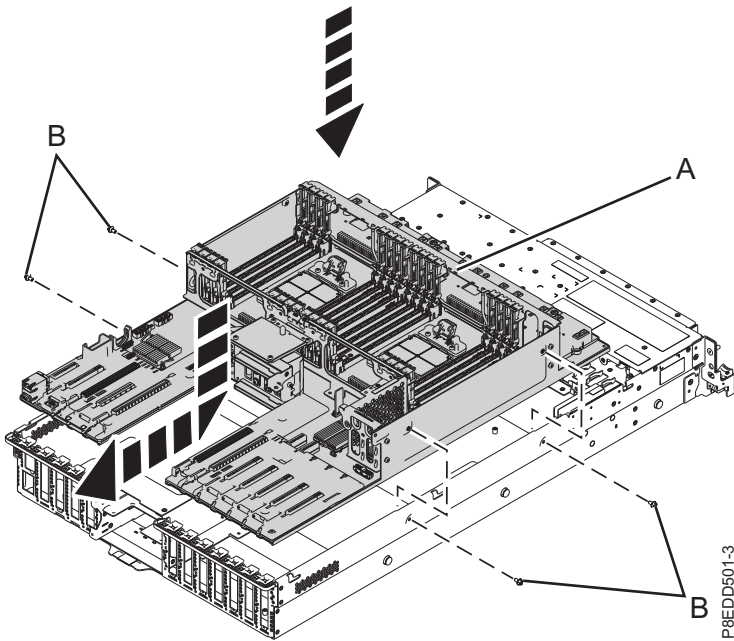

Figure 120. Installing the system backplane
- a. Grasp the top guide rail (A) and lower the backplane into position while you are sliding it toward the rear as shown in Figure 120 on page 122.
- b. Using a Phillips screwdriver, install and tighten four screws (B) to secure the backplane to the side of the chassis as shown in Figure 120 on page 122.